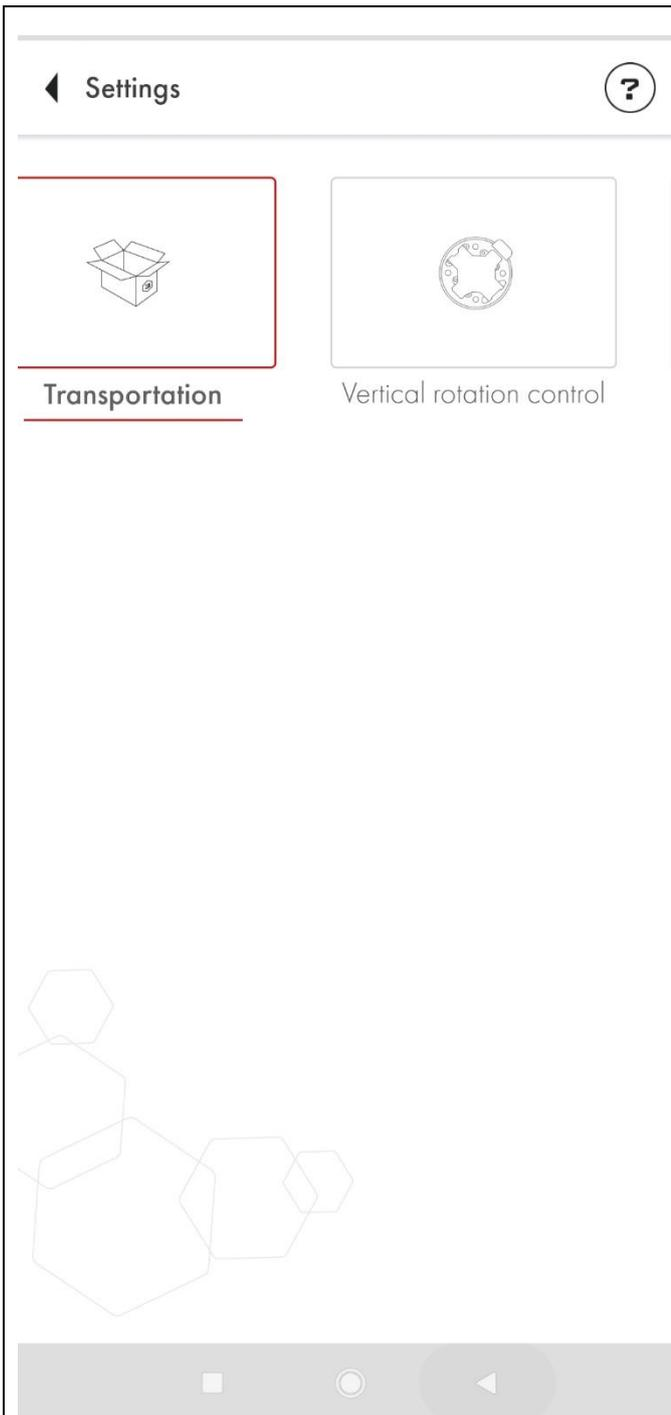

Fig. 9.5. **Swipe** at the top of the screen to select the operating mode of the sensor
6. **Swipe** to the right or to the left at the top of the screen of the Settings menu to see all the modes available (Fig. 9.5.) Tap on the mode you want to select it.